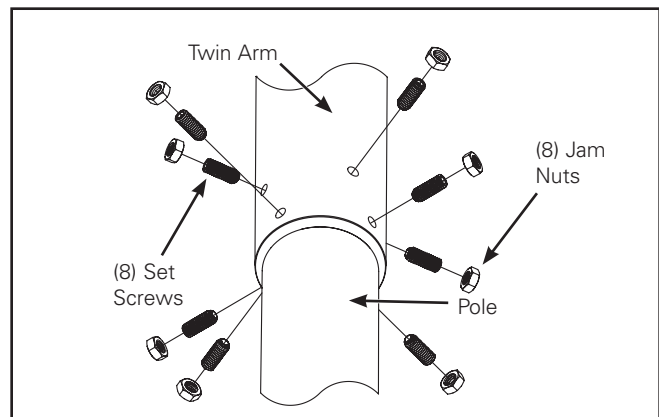

Figure 11.
- Install eight 1/2-13 x 1-1/4" set screws to hold arm to pole and tighten to 300 inch-lbs. (Figure 11.) Install eight 1/2-13 jam nuts onto the sets screws and torque to 325 inch-lbs.